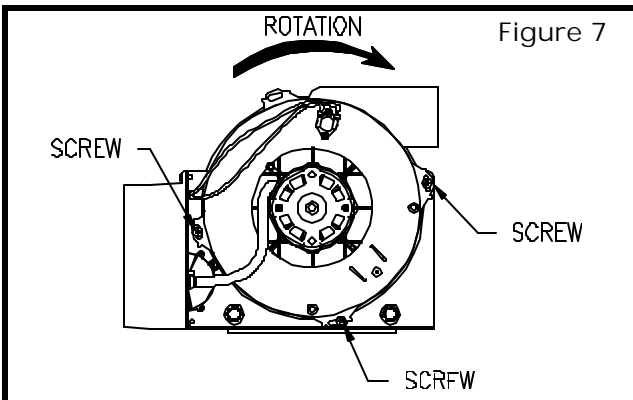

Figure 7
This water heater is a power vented appliance and is designed to vent its products of combustion through 2" (5.1 cm) or 3" (7.6 cm) diameter Schedule 40 (solid or cellular core) PVC pipe to the outdoors. The water heater may be either vented through the wall or vertically through the roof. Use a 3" (7.6 cm) to 2" (5.1 cm) reducer to connect to the vent outlet when using 3" (7.6 cm) PVC. Apply PVC cement at PVC locations. Table 7 lists the maximum vent lengths for this water heater using 2" (5.1 cm) PVC. If possible, locate the water heater so that the venting length and number of elbows are kept to the minimum distance necessary to reach the outside. If the installation requires venting lengths that exceed the lengths listed for 2" (5.1 cm) PVC in Table 7 then use 3" (7.6 cm) PVC for the vent connector. Table 8 lists the venting distances allowed with 3" (7.6 cm) diameter PVC pipe. When venting with 3" (7.6 cm) PVC, use a 3" (7.6 cm) to 2" (5.1 cm) reducer to exit through the building wall with 2" (5.1 cm) PVC. Use the 2" (5.1 cm) vent terminal supplied with the water heater to terminate on the outside of the building. If the length of the 2" (5.1 cm) needed to go through the wall is greater than 14" (35.6 cm), use 3" (7.6 cm) PVC to go through the wall and reduce to 2" (5.1 cm) PVC immediately after exiting the outside wall. Refer to the venting illustrations on the following pages. Make sure the vent pipe terminal is at least 1" (2.5 cm) away from the edge of the wall. To vent horizontally with zero (0) elbows, remove 3 screws from blower housing and rotate the blower housing 90° clockwise (see Figure 7). Replace the three (3) screws once blower housing rotation is complete.